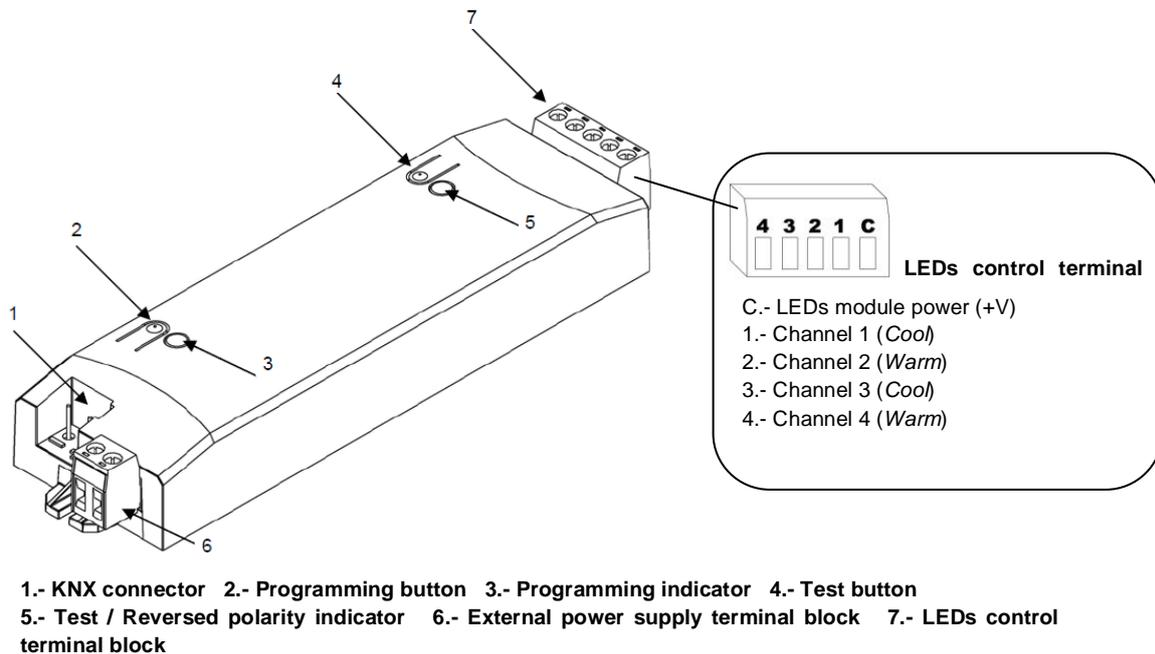

Figure 1.2. LUMENTO X4. Connection scheme
In the figure 1.2, the connection scheme of LUMENTO X4 is shown:
It is also provided with the controller a second terminal block with screws (7) where to connect the LED module. In the points of connection 1-4 of the terminal block, one must connect the channels of the LED modules, taking into account that in the points 1 and 3 must be connected the Cool white channels and in the points 2 and 4, the Warm white channels. The common of all of them (+V) must be connected to the common point of the terminal block (C). In the figure 1.2 appears a scheme of the terminal block, with each of its connection points. (**Note:** *These cables can be screwed onto the terminal block before installing the device and then inserted at a later date*).